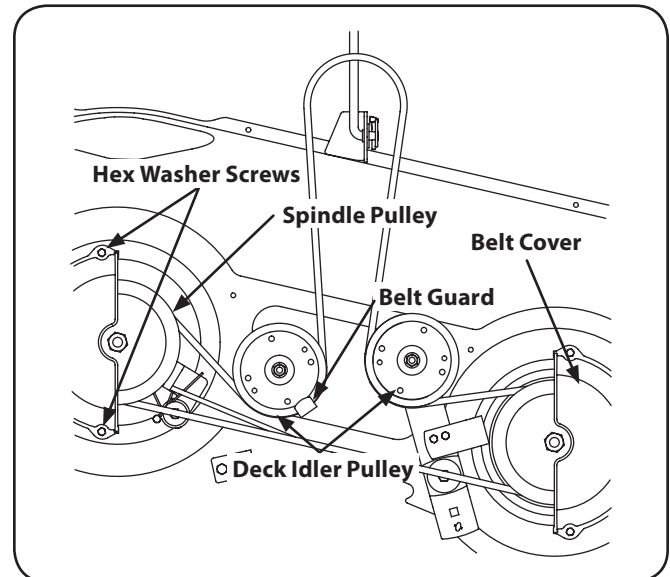

Figure 7-6
2. Remove the belt covers by removing the hex washer screws that fasten them to the deck. See Fig. 7-6.
4. Carefully remove the deck belt from around the two spindle pulleys and the two deck idler pulleys. See Fig. 7-6.